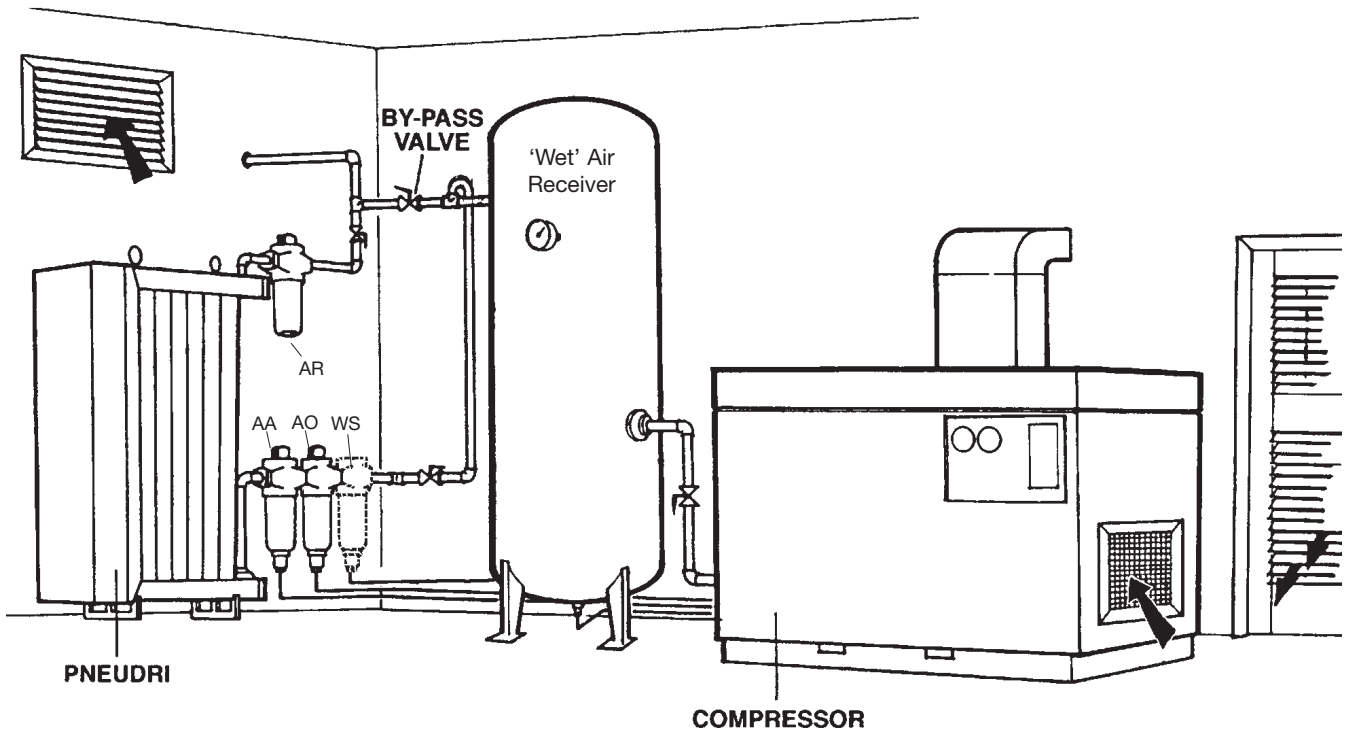

Figure 1 - PNEUDRI INSTALLED AFTER A 'WET' AIR RECEIVER
Construction:	PNEUDRI is constructed from extruded aluminium sections connected together by high tensile bolts i.e. desiccant filled columns are contained between an upper and lower manifold. The configuration varies between the heatless and heat regenerative models as shown in figures 1 & 2
B) POSITIONING YOUR SYSTEM (See Figure 1)